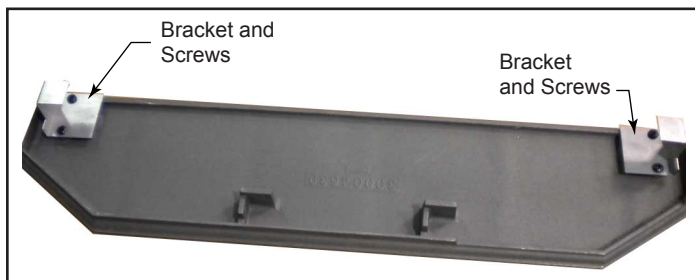
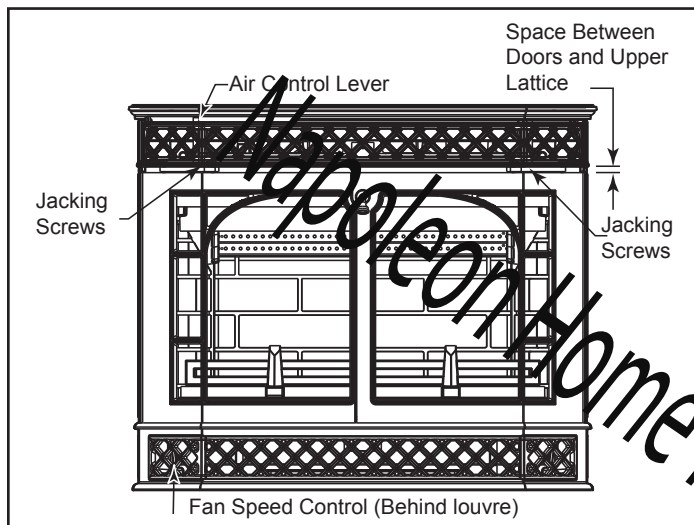

Figure 8 - Secure bracket to mantel with two (2) Philips screws.
Figure 9 - Merrimack Large Insert controls.
- 4. Route the blower power cord.** Run the power cord out the left or right side of the insert. Remove the two (2) louvre doors (Figure 9) or access doors. Remove the screw and washer from each side holding the ashlip to the front. If you run the power cord out the left side, remove the two (2) screws holding the rheostat bracket to the fan housing. Insert grommet nearest fan in the slot on the fan housing, left or right side. Reattach rheostat bracket with the two (2) screws removed earlier. Remove the cover plate and insert the provided grommet into the slot. Reattach the cover plate.
5. Install Mantel and Access Door. For enamel units: Remove the prepackaged mantel and install the two (2) brackets to the upper side of the mantel using four (4) 1/4-20 x 3/8" Phillips head black screws already installed in the mantel. (Figure 8) The brackets can be found in the stove. Remove the screws and use to attach the brackets. For classic black units: Remove the tie strap holding the mantel in place. The brackets are already attached to the mantel. Unwrap the two (2) pre-assembled access doors and snap into place. If the spacing between the doors and upper lattice is not even, you can pull the doors inward off and adjust the upper lattice. Screw the two (2) jacking screws that contact the front up or down as needed. (Figure 9)
All Merrimack Large Insert controls are conveniently located on the front. (Figure 9)
Figure 9 shows the automatic setback control. Move the primary air control lever all the way to the left. Push the primary control about one more inch to the left to open the air shutter (the lever will spring back automatically when released). The shutter will remain open only if the stove is below its proper operating temperature. Once open, the primary air control lever may be adjusted to any desired position. Once the stove heats up to its proper operating temperature, you will here a clicking sound confirming the shutter has closed. This returns the stove to the output setting of the primary air control.